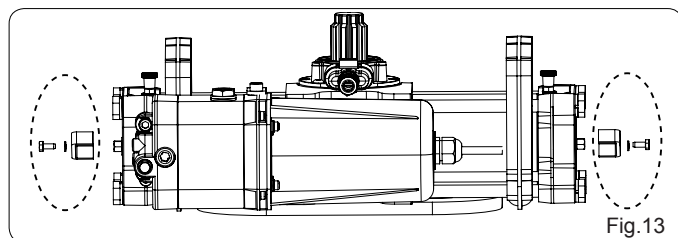

Fig.13
- 5) Fasten the supplied U-bracket (Fig.13) on the travel-limit stop screw.
- 9) Fasten the supplied U-bracket (Fig.13) on the travel-limit stop screw.